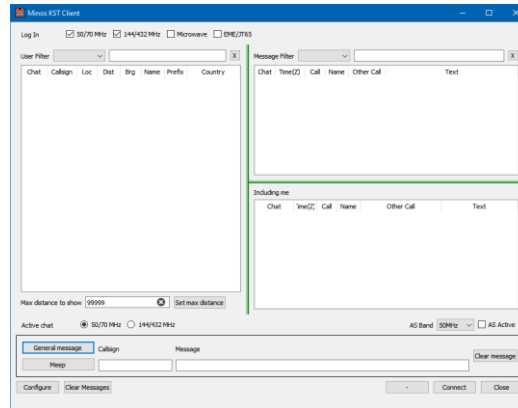
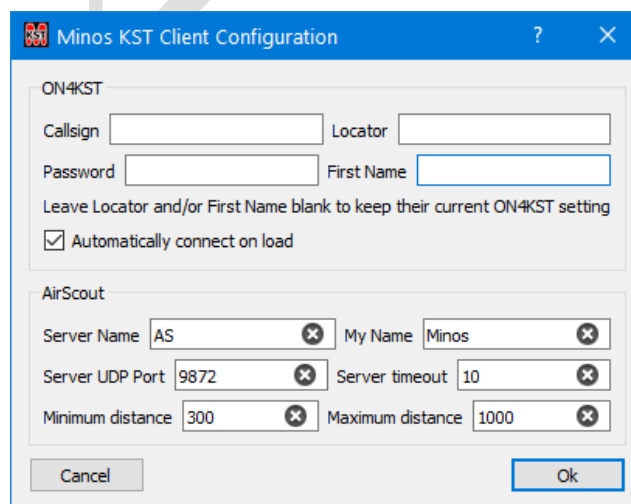

Figure 152 – KST Startup
Figure 153 – KST Client configuration
“**Configure**” – invokes the Configuration panel (Figure 153) which then requires:
- **Configure** – invokes the Configuration panel (Figure 153) as described above.
If the “**AS Active**” box is ticked (just above the ‘Clear Message’ button on the bottom right of Figure 152) then AirScout integration is started, subject to the requisite configuration information having been supplied (see Figure 153):